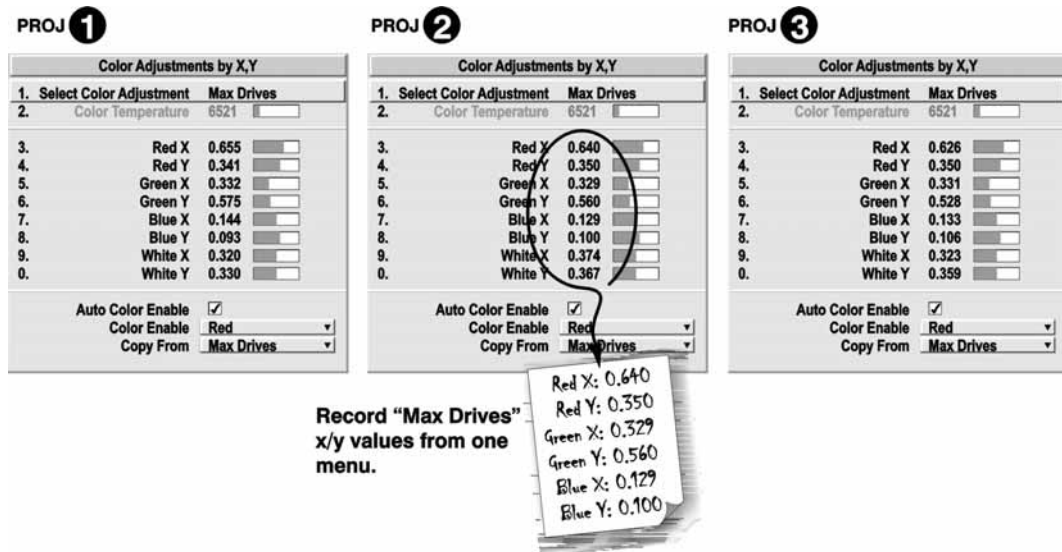

Figure 3-38 Jot Down a Set of "Max Drives" X/Y Values
4. Display the *Color Adjustments by X, Y* menus for all projectors. Each menu shows the x/y coordinates defining the "Max Drives" color gamut for this projector. Write down the values shown in one (any) of the displays. Refer to Figure 3-38. Or use "Copy From" to copy these into a "User" gamut for this projector.